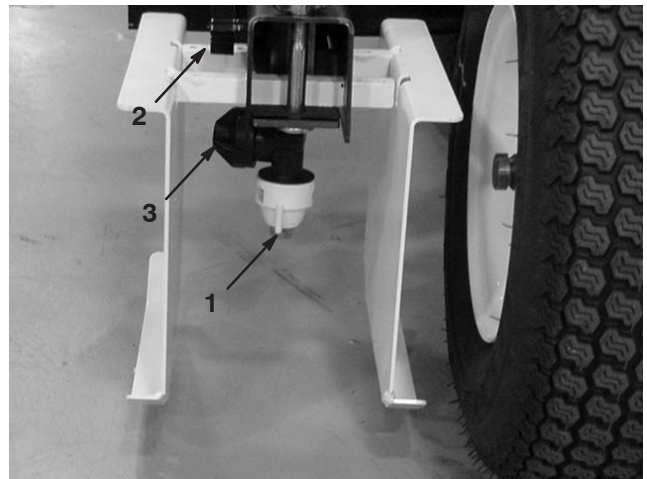

Figure 22
4. Loosen the screw securing the paint nozzle tube to the boom arm (Fig. 22).